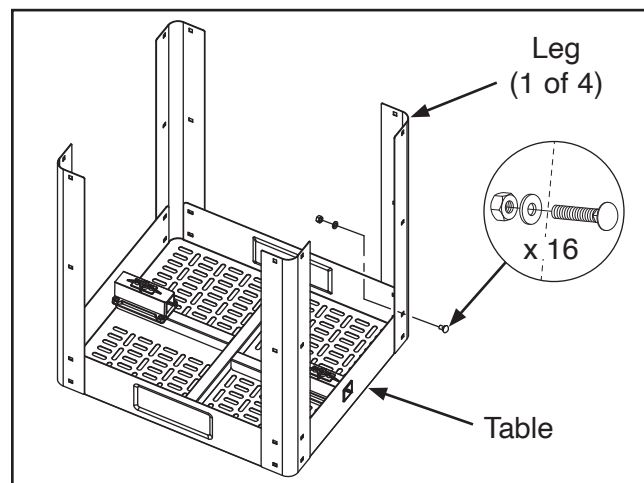

Figure 3. Leg to table installation.
2. Attach (1) leg to each corner of table with (16) M8-1.25 x 16 carriage bolts, 8mm flat washers, and M8-1.25 hex nuts (see **Figure 3**).